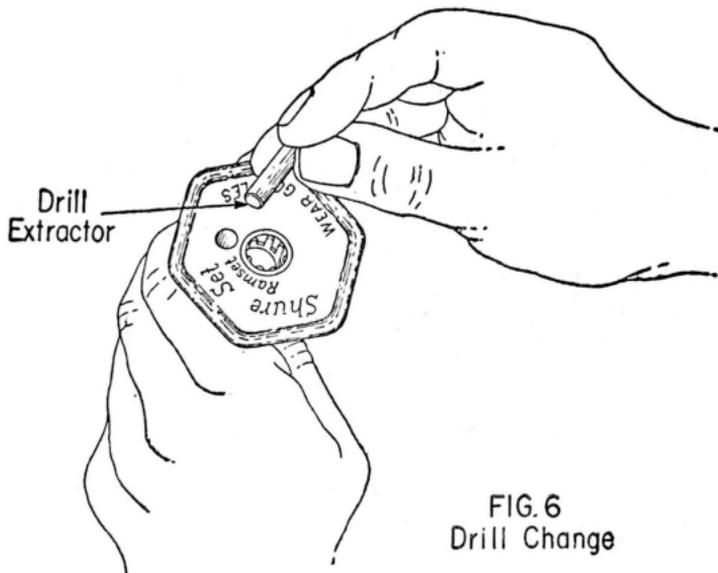

FIG. 6
3.06 Drills are changed by removing the ram and placing the drill extractor into the tool. See Fig. 6. Replace the ram and tap lightly to remove drill.